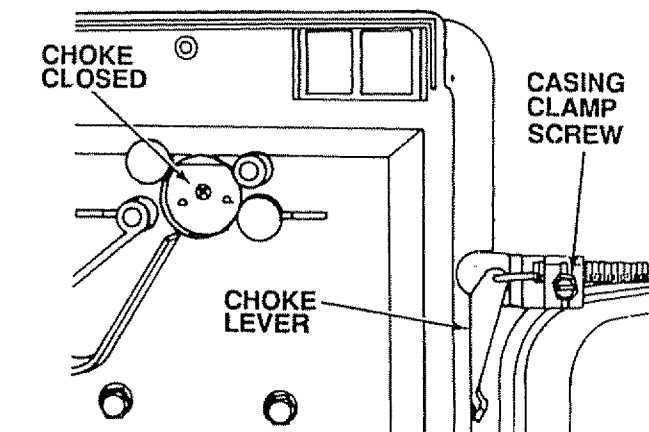

FIGURE 22
- With the choke control on the dash in the "choked" or out position, the choke should be closed (Fig. 22). If it is, then close up air cleaner. If it is not, go to step d.